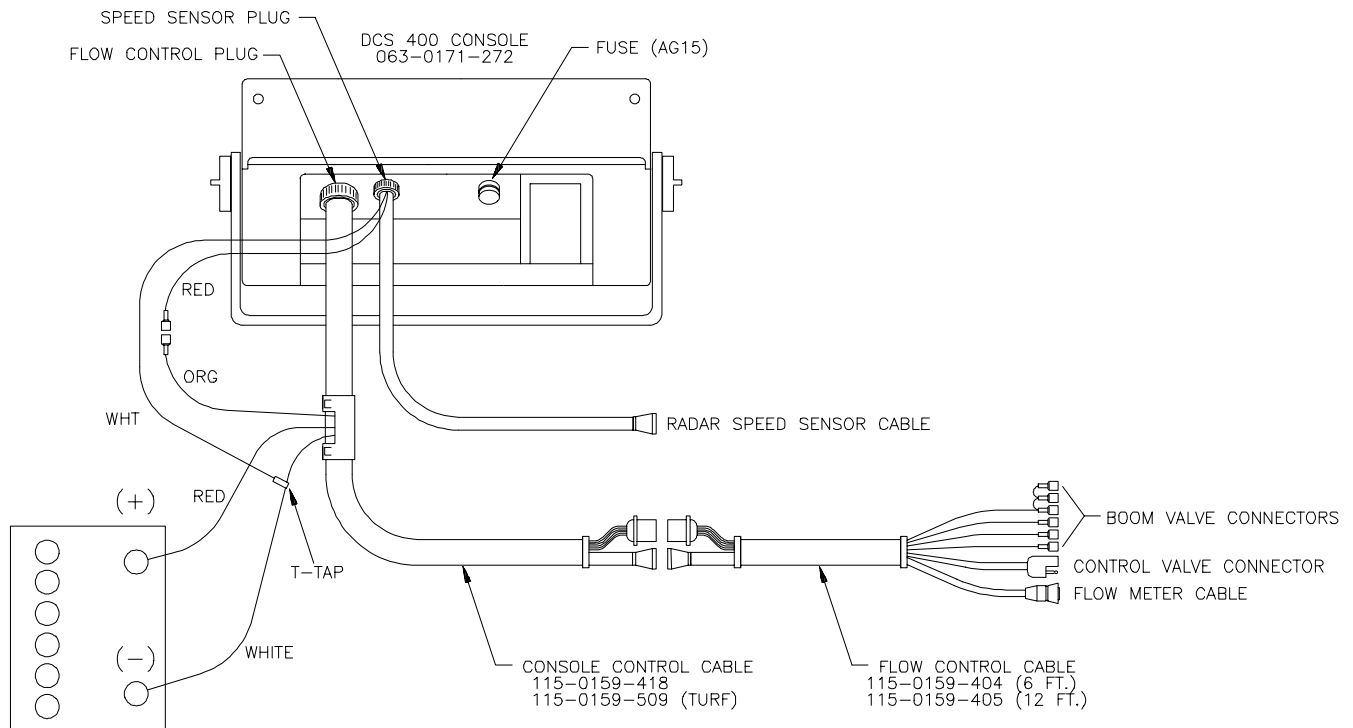

FIGURE 5
- 6) Connect radar with Radar Interface Cable (P/N 115-0159-539), to the DCS 400 Console. The Red wire should be connected to the Orange cable wire. The White wire should be connected to the White cable wire. (See Figure 5 on page 7).
- 2) Connect the Console Control Cable to the plug in the back of the Console. (Reference Figure 5). Route the Console Control Cable out of the vehicle cab and terminate. (Flow Meter extension cables are available from your Dealer).